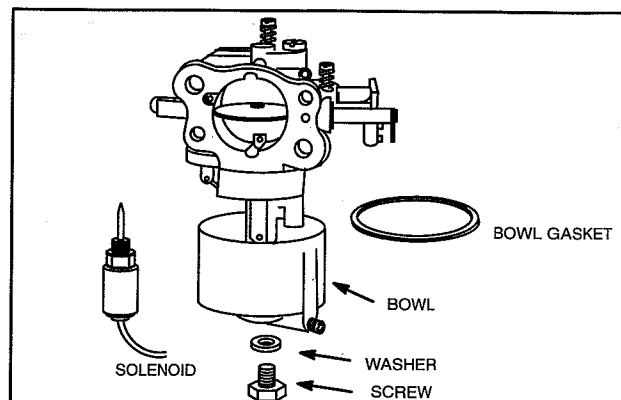

Fig. 24 – Install Float Bowl
a. Position bowl drain as shown, Fig. 24.